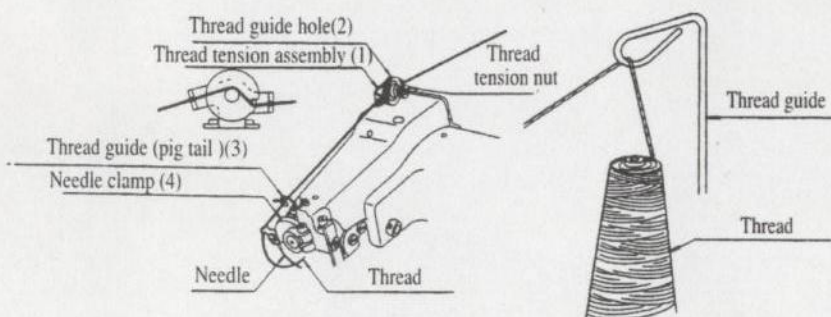
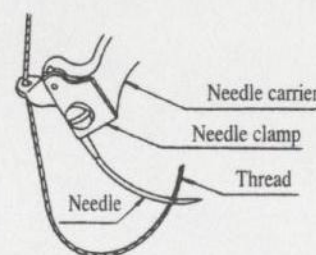

FIG.9
FIG.11
A. Put the thread on the plastic cap (Fig.9)
C. Please carefully refer to Fig.9 to thread the machine correctly.
When the thread is up to the thread guide assembly (1), draw the thread through thread guide hole (2) out of the front hole (Fig.9), thread guide (3) and the hole of the needle clamp (4) from up to down. Please note that the direction of the needle is over left, draw the thread upward through out of the needle hole (Fig.11).